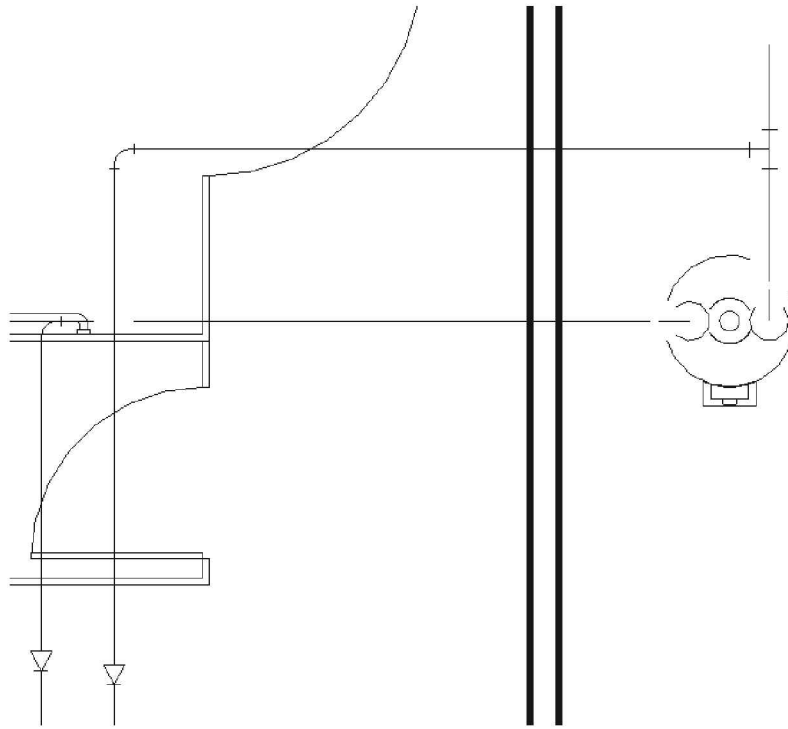

FIGURE 13-5.10 Cold water piping at 10'-0"
27. Use the same process to draw the cold water piping (Figure 13-5.10).
- b. Off of the water line just drawn, draw a $\frac{3}{4}$ " pipe as shown in Figure 13-5.10, heading towards the sink in the *Break Room*.
The cold water is drawn 4" above the hot water to avoid conflicts when they cross each other. Notice, when they do cross, the lower one is graphically interrupted (Figure 13-5.10). You may have to select the *Tee* and change it to a *Generic Tee* via the *Type Selector*.